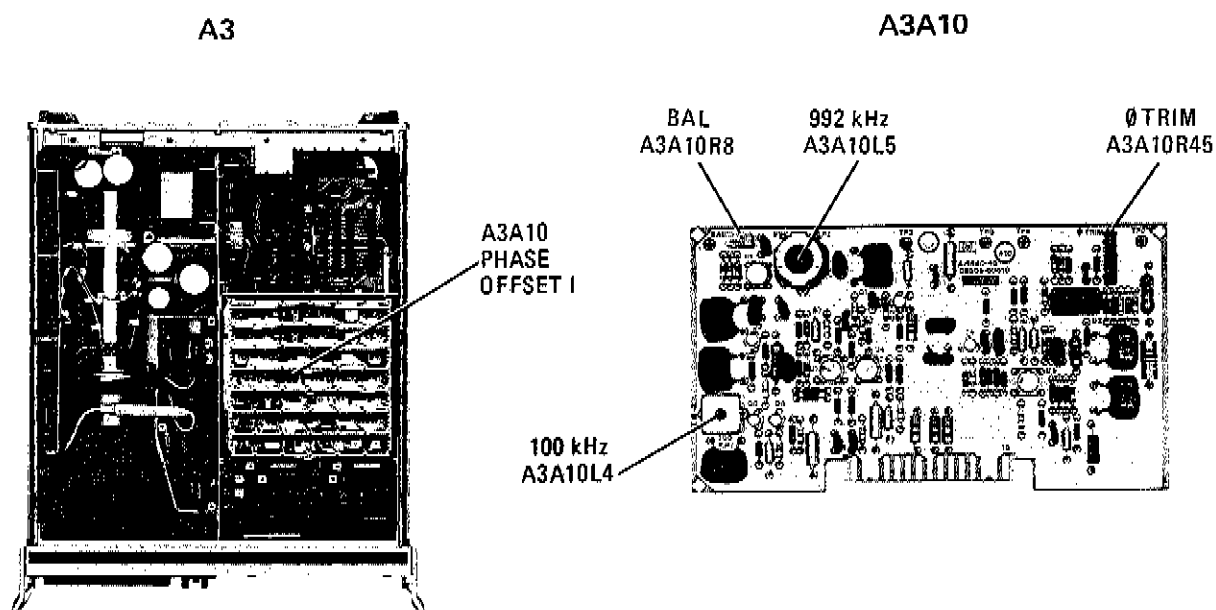

Figure A5-34. A3A10 Adjustment Locations
- d. Set NORM-ALIGN switch S1 on A3A9 PHASE OFFSET 2 board to NORM (left). Connect 8553B Spectrum Analyzer to A3A10TP1 using 1121A probe. Adjust "100 KHZ" control A3A10L4 (Figure A5-34) for maximum 100 KHz signal.
- s. Observe the CRT trace. If the trace is not on the center graticule line, adjust " $\phi$  TRIM" control A3A10R45 to place the trace on the center graticule line  $\pm 0.2$  degrees (Figure A5-34).